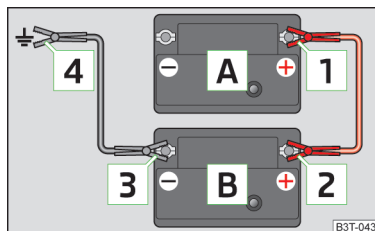

Fig. 115
- Attach clamp **1** to the positive terminal of the discharged battery **A** » Fig. 115.